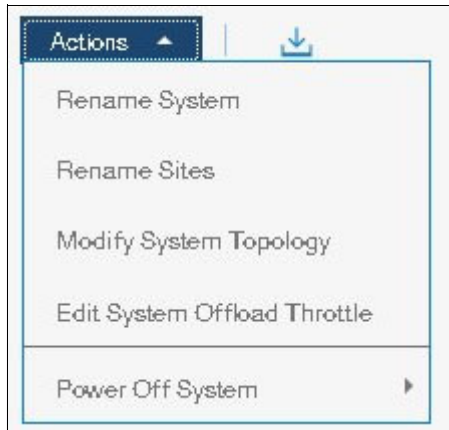

Figure 6-11 Modify System Topology
1. Start the HyperSwap GUI wizard, select **Actions** → **Modify System Topology** (Figure 6-11).